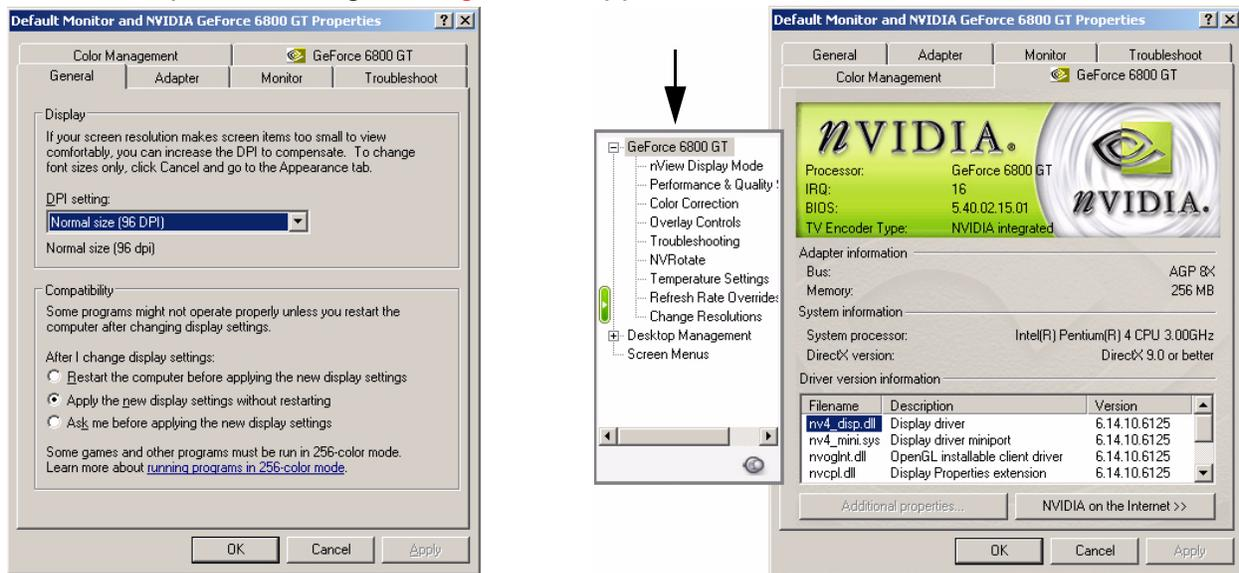

Figure 5-4. GeForce 6800 GT menu with all options displayed
- Click the **Advanced** button shown above. The menu below left appears, with the General tab selected by default. Click on the **GeForce 6800 GT** tab. The menu pictured at right in Figure 5-4 appears.